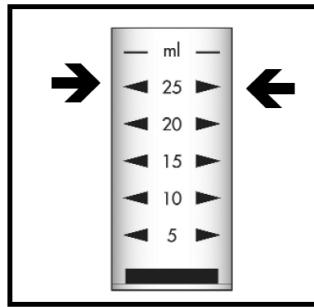

Figure 1
1. Fill the sample cup to the 25 mL mark with the sample (Figure 1).